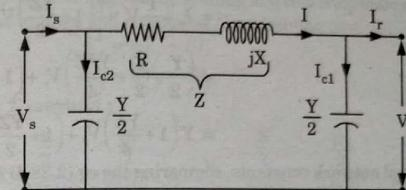

Fig. 2.28.1.  $\pi$ -equivalent circuit of medium transmission line.
2. From Fig. 2.28.1,
- From Fig. 2.28.1, the voltage at the receiving end under no load is